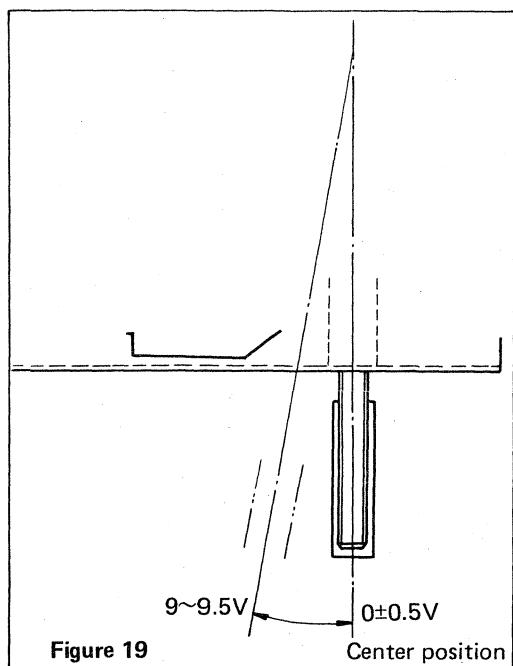

Figure 19
(2) Adjust VR 201 so that voltage reads 9.0 to 9.5V when tonearm is swung to left side by hand (See Fig. 19), and then adjust eccentric pin (B) so that voltage reads  $-0.5$  to  $+0.5$ V when tonearm locates at the center (See Fig. 19, 20).